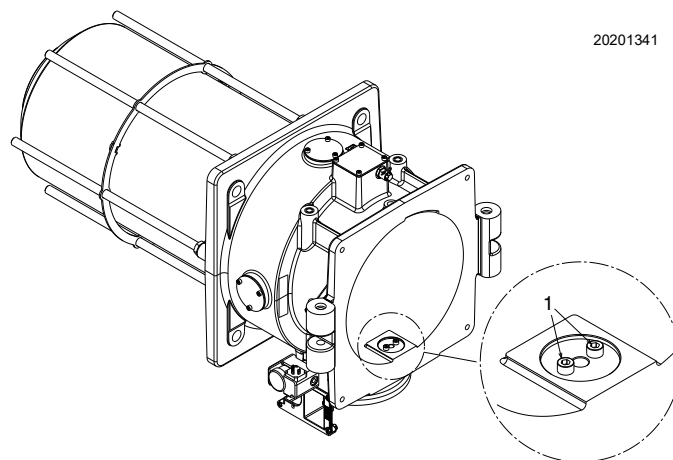

Fig. 19
The factory setting for the central gas is with the following passage holes (Fig. 19).
- remove or add one or more screws 1) (Fig. 19) as follows: